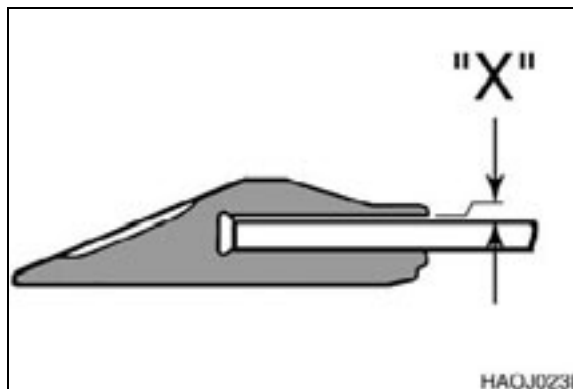

Figure 5
4. Slide the new tooth into position and insert shims. Shim tooth until gap is less than "X" [0.5 mm (0.020 in)]. See Figure 5.